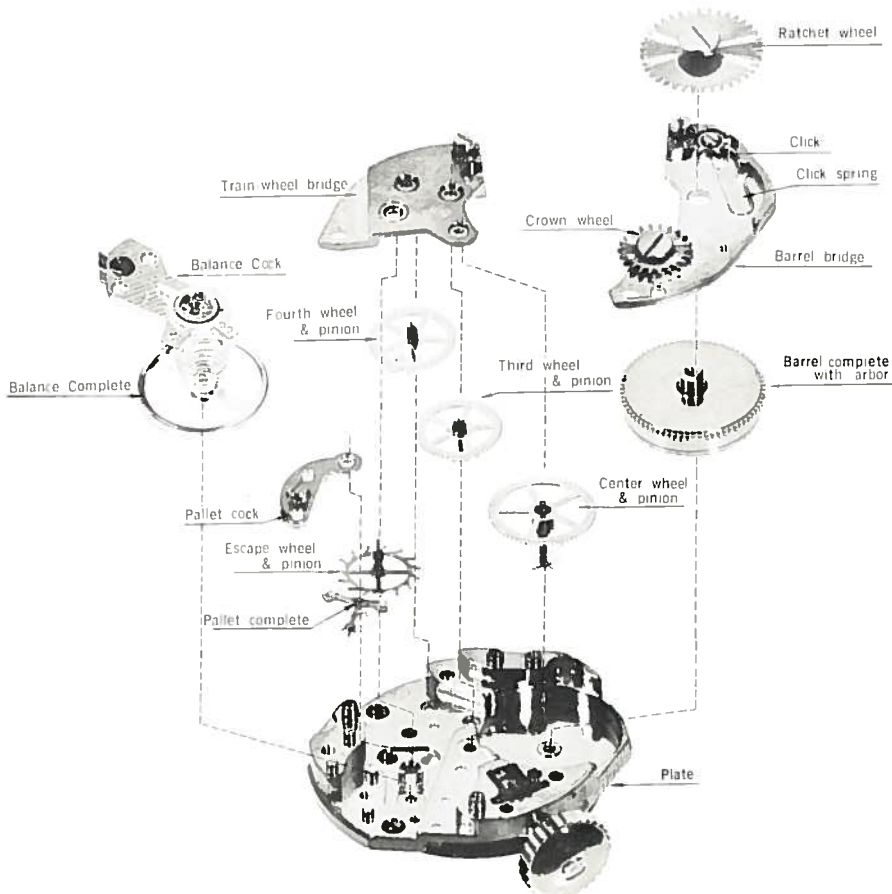

Fig. 9
4) Basic movement (Fig. 9 & 10)